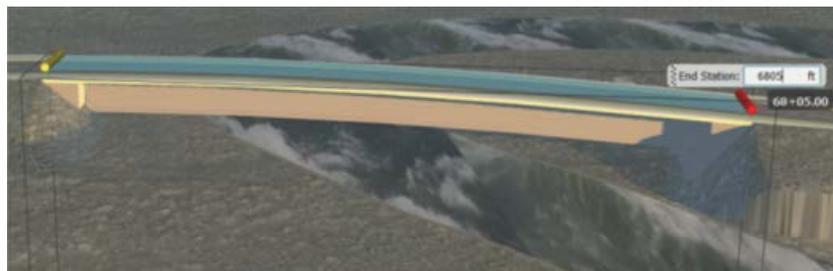

Figure 17
2. Drag the bridge gizmo to a new location to change the length of the bridge. Alternatively, you can type a new station value for the beginning or ending station and press <Enter>, as shown in Figure 17.